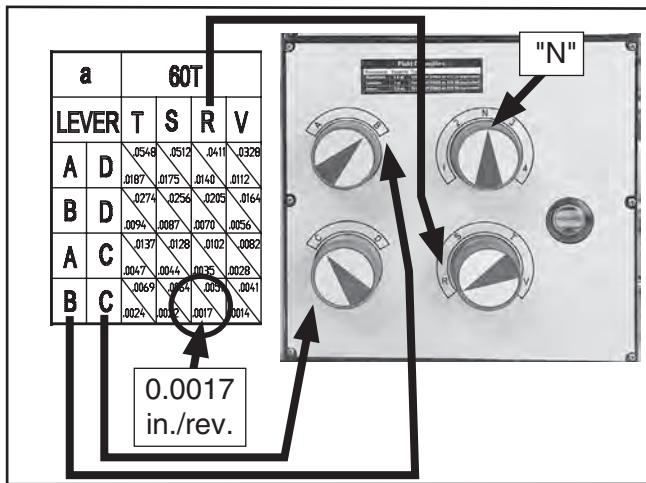

Figure 66. Gearbox dials positioned for 0.0017 in./rev.
- Position gearbox dials as directed by chart shown in **Figure 66**. Be sure to point top right dial to "N" to select feed rod and disengage leadscrew. If necessary, use chuck key to rock spindle back and forth to help mesh gears.